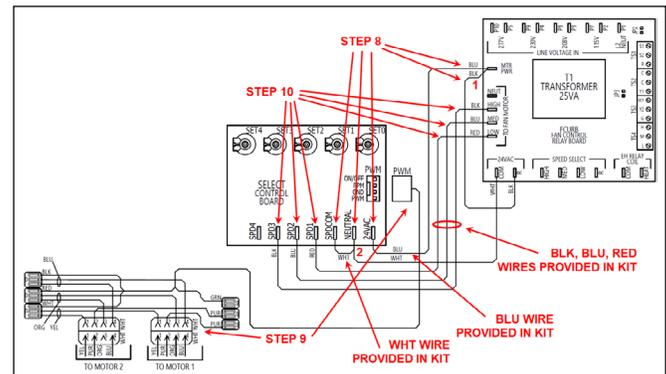

Figure 54 - Select PWM Electrical Connections
CONNECT POWER TO SELECT PWM (See Figure 54)
CONNECT MOTOR CONTROL SIGNAL TO SELECT PWM (See Figure 54)
CONNECT FAN CONTROL WIRES TO SELECT PWM (See Figure 54)
- Ensure that the new wires have been connected as specified in Figure 54.